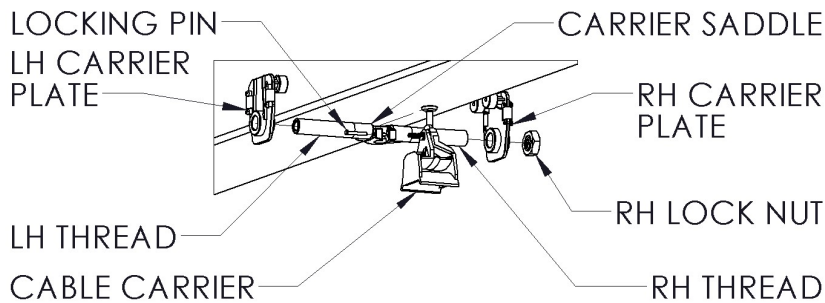

Figure 9: Runway festoon trolley
1. Assemble runway festoon trolleys to fit system runway flange width (see figure 9)